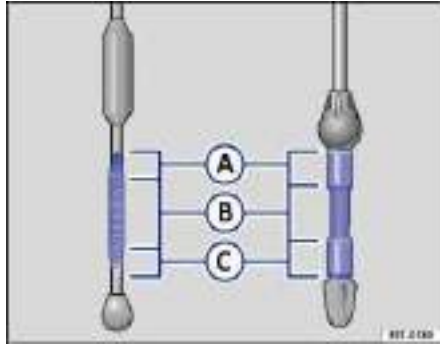
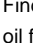

Fig. 164 Oil dipstick with engine oil level marks.
Fig. 165 In the engine compartment: Engine oil filler cap.
4. Find the oil filler opening and the dipstick. You can identify these by the  symbol on the engine oil filler cap ⇒ fig. 165 and the colored handle on the dipstick. If you are not sure where the cap and the dipstick are located, see your authorized Volkswagen dealer or authorized Volkswagen Service Facility for assistance.
7. Remove the dipstick again and read the oil level on the dipstick ⇒ fig. 164 as described below:
- (A): **Do not** add any oil ⇒ . Continue with step 15.
- (B): Oil may be added (about 1 pint / 0.5 liter). Continue with step 8 or step 15.
- (C): **You must** add oil (about 1 quart / 1.0 liter). Continue with step 8.
9. Remove the cap on the engine oil filler opening ⇒ fig. 165.
13. After adding oil, the level must at least be in the center of the ⇒ fig. 164 \(B\) area, but never above (A) ⇒ .